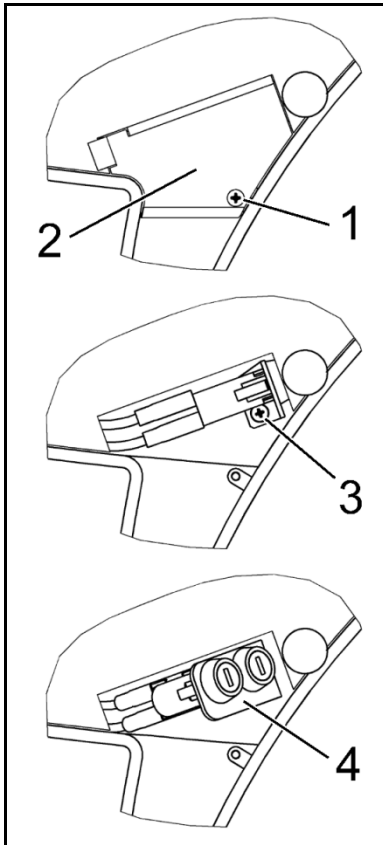

Fig. 22: Changing fuses
1. Loosen screw (Fig. 22/1) and remove cover (2).
2. Loosen screw (3) and remove fuse holder (4).
3. Use a regular head screwdriver to open the fuse holder (4); replace old fuses with new ones (refer to Chapter 4, page 9 for fuse specifications).
4. Re-close fuse holder (4) and install.
5. Replace cover (2).